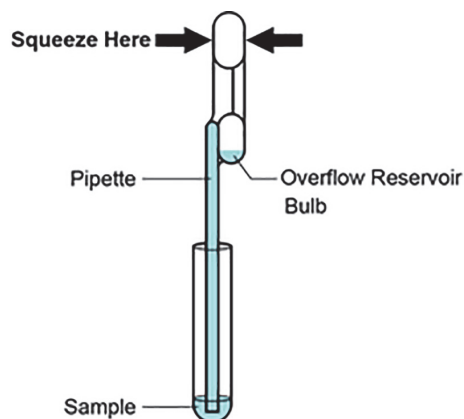

Figure 10. Transfer Pipette
9. Squeeze the top bulb of the transfer pipette **completely until the top bulb is fully flat**. While continuing to hold the bulb fully flat, place the pipette tip in the specimen transport tube. (see Figure 10).
10. Keeping the pipette below the surface of the liquid, release the top bulb of the pipette slowly to fill the pipette with sample before removing from the tube. It is okay if liquid goes into the overflow reservoir (see Figure 10). Check that the pipette does not contain bubbles.